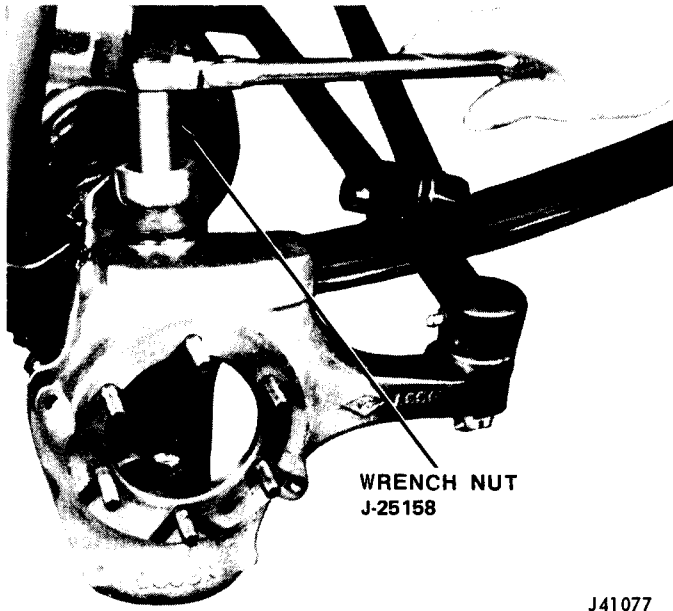

Fig. 10-12 Tightening Upper Ball Stud Seat
(3) Use Nut Wrench J-25158 to tighten upper ball stud seat to 50 foot-pounds torque (fig. 10-12).
(4) Install upper stud nut and tighten to 100 foot-pounds torque. Install cotter pin. If cotter pin holes do not align, tighten nut until cotter pin can be installed. Do not loosen nut to align holes.
(5) Connect steering tie rod. Tighten nuts to 50 foot-pounds torque.